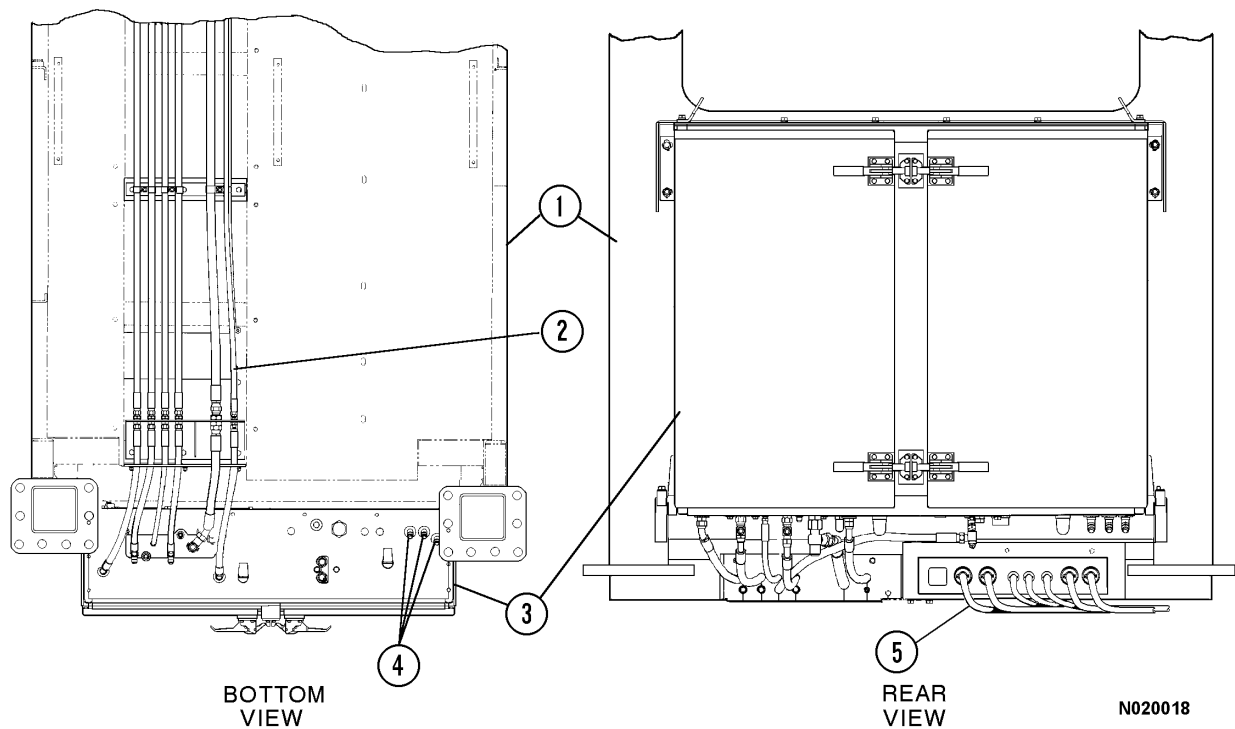

FIGURE 2-2. CAB HYDRAULIC AND ELECTRICAL CONNECTIONS
3. Route wire harnesses to the electrical connectors on the rear corner of the cab (5, Figure 2-2). Align cable connector plug key with receptacle key and push plug onto receptacle. Carefully thread retainer onto receptacle and tighten